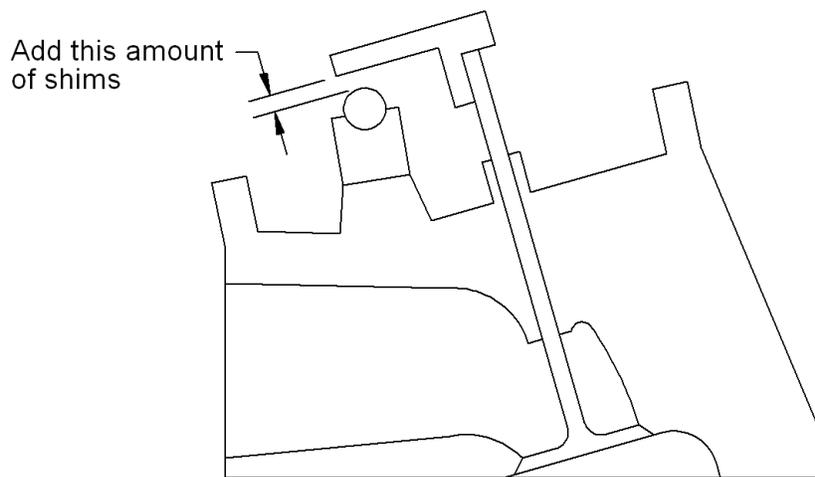

Figure 3
- f. If the gage contacts the top of the valve stem and does not touch the rocker shaft, as shown in figure 3, add a corresponding amount of shims between the stand and the cylinder head, which will raise the rocker stand and shaft to the correct height.